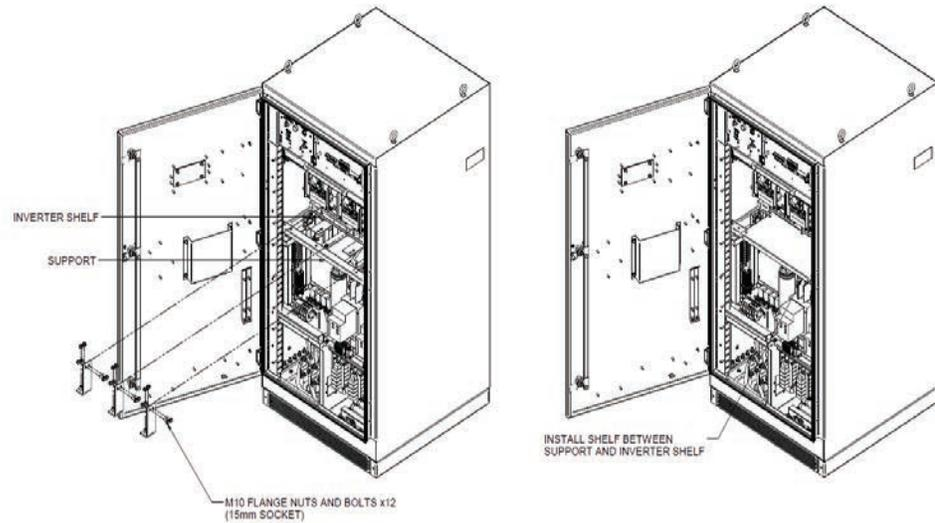

Figure 41. Shelf installation for pole(s) servicing.
- For IGBT inverter pole assembly servicing, install the service shelf in the PCS as illustrated in Figure 41.